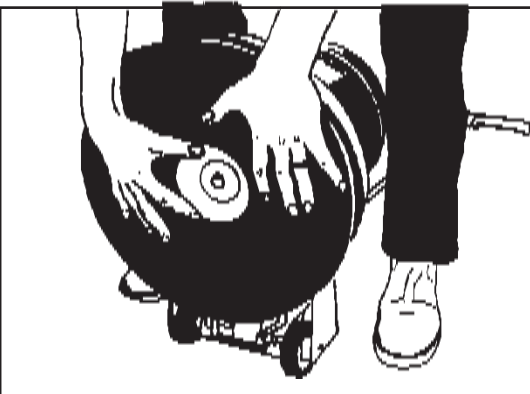

Figure 3
7. Put the paper holder in position. See figure 3.
1. The locking lever is on the lower part of the handle tube. Use your foot to lift the lever. See figure 3.